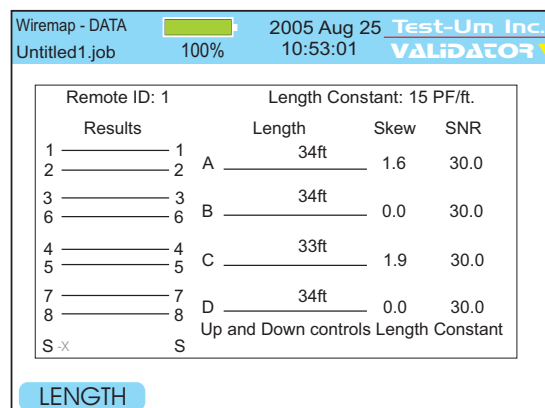

Figure 5.5 Manually Testing Cables
1. Select Cable Test to initiate a test sequence. The wiremap, length, SNR, and Skew results will display. (Figure 5.5)